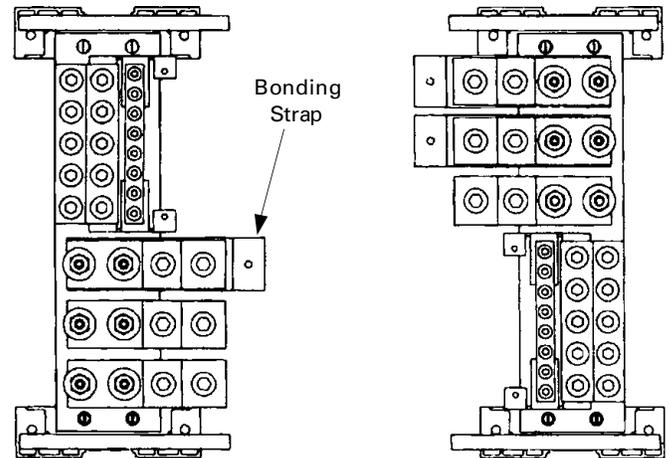

Figure 3. Neutral mounted to the back wall of the enclosure.
2. Fasten the opposite end of the neutral to the enclosure with two 10-32 x 11/16" thread-forming screws provided. Tighten to 27–32 in-lb. Figure 3 shows the neutral mounted to the back wall of the enclosure.
3. When a bonding strap is required for service entrance applications, first loosen the wire connector nuts at the positions indicated in Figure 3. Slide the bond strap provided with the neutral under the connector, then retighten the nuts to 200–250 in-lb.